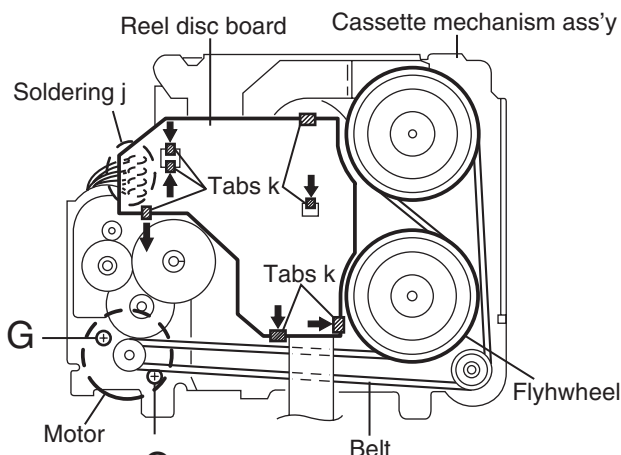

Fig.10
**■ Removing the reel disc board (See Fig.10)**
**■ Removing the motor and the sub motor (See Fig.10 and 11)**
(See Fig.10 and 12)